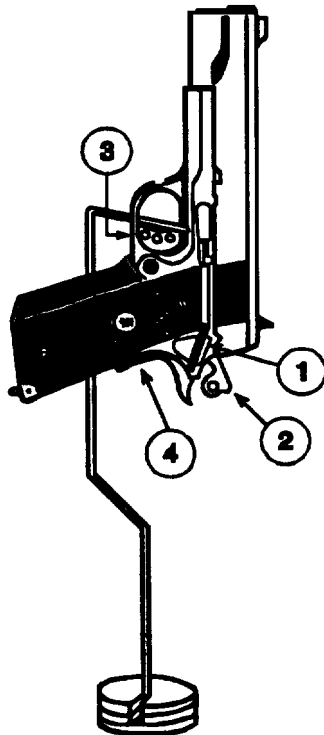

Figure 6-36. Trigger Pull Test
(3) With the ambidextrous thumb safety (1), Figure 6-36, in the FIRE position and the hammer (2) cocked, hook the notched portion of the test fixture rod over the center portion of the trigger (3).
(4) Depress the beavertail grip safety (4), Figure 6-36, and carefully raise the weight from the bench. Hold the weapon in a vertical position. Using the 4.5 pound weight (minimum), the trigger should *not* release the hammer.
(5) Remove test fixture and add weights until maximum load of 5.0 pounds is reached. Repeat the procedures in para (4) above. The trigger should release the hammer.